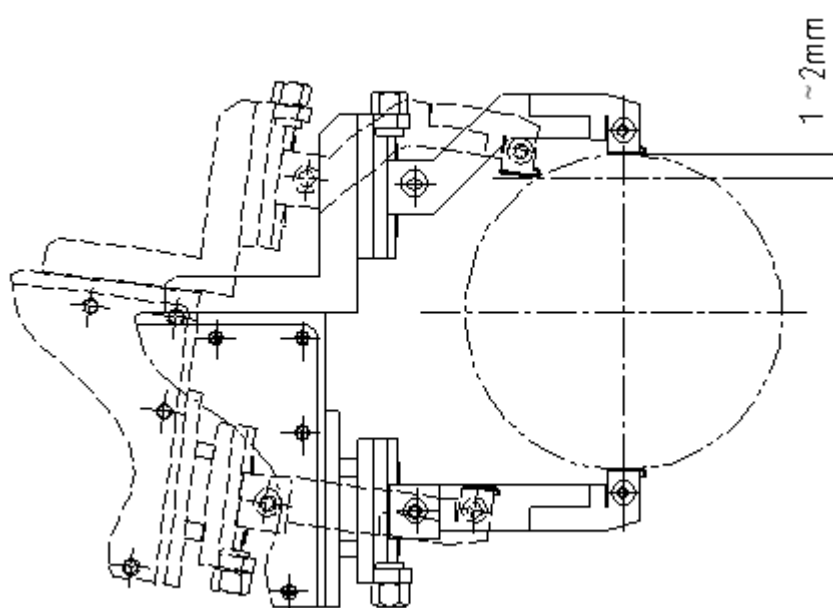

图 2
5.4.1 As shown in Figure 2, adjust the fine adjustment screw of the upper measuring rod to make contact between the measuring rod and the standard part. Pay attention that the contact point between
As shown in Figure 2, click the  button and the system will enter the adjustment window. The interface will display G1. Adjust the fine adjustment screw of the lower measuring rod, slightly lock the measuring rod (be careful not to apply too much force, as adjustments need to be made below), continue adjusting the fine adjustment screw, observe the display value of the control instrument to display "0" (or within $\pm 30 \mu$), and then lock the lower measuring rod. After locking, the display value of the control instrument may